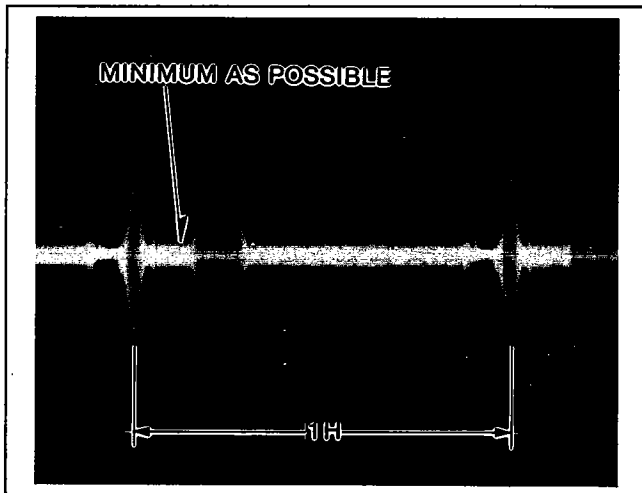

Figure E27
4. Adjust both VR9005 and VR9006 until the white portion signal is as small as possible. See Figure E27.